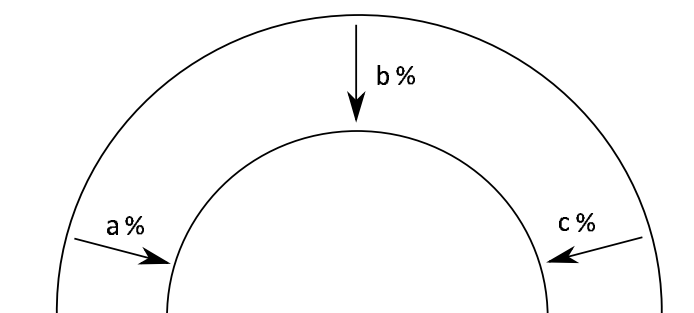

Figure 6: Variation in Super-elevation along Incremental Launch Bridge Decks (Benade, 2011)
*Fig. 6: The Demonstrator was designed with a rotation line along the center of the roof, enabling formwork reuse when combined with the silicone membrane coating system.*
Demolding can be cumbersome when concrete is cast against milled EPS formwork, especially when the geometry includes high curvatures. Experiments show that applying a liquid coating to milled surfaces can result in a smooth concrete finish; however, the formwork often breaks during demolding. It therefore, becomes difficult to separate the coating from EPS, hindering EPS recycling. A new flexible membrane coating system was developed as a solution. Optimal results were obtained using a 0.5 mm thick silicone membrane, which was found to be easy to handle and attach to the milled EPS. The silicone-coated milled EPS can be detached easily from hardened concrete, leaving both the membrane and the EPS ready to be reused or recycled. Such technology enabled reusing 90% of the formwork in the Demonstrator. In this case, the structure was designed with a rotation line along the center, as shown in Fig. 6. Hence, the two halves of the structure are equal, except for the lowest part, as it has different endings.